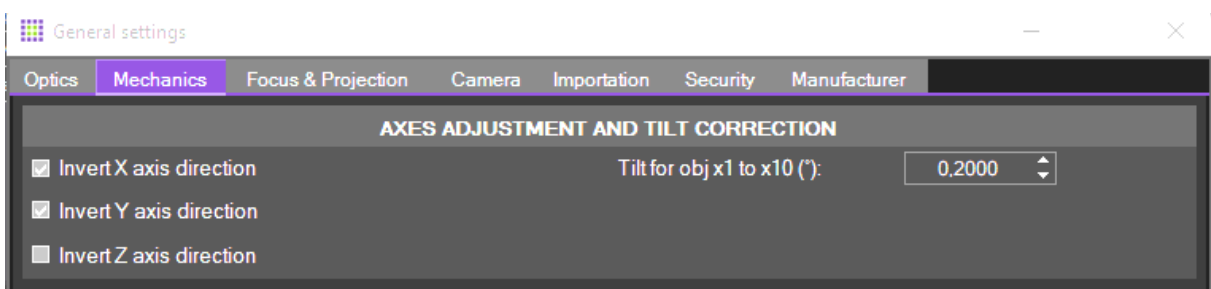

Figure 74 – Settings: motorized XY stage
**Invert X/Y/Z direction** options allow to change the stage motion direction (Figure 74). It is recommended to keep those parameters in their default configuration.